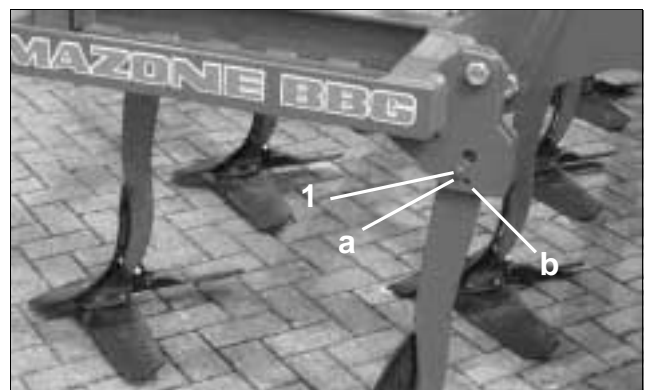

Fig. 13
- Slacken the fixing nut of the shear pin (Fig. 13/1).